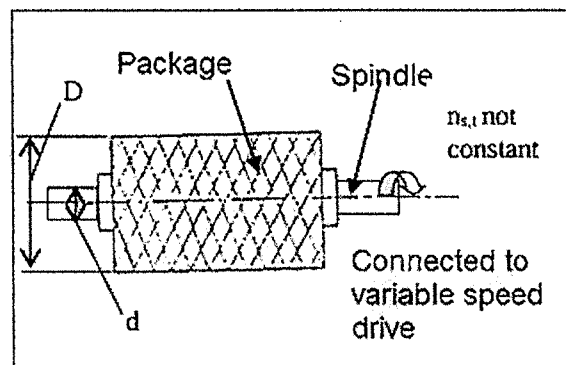

Figure 02.
- b) In a direct spindle drive system with variable speed (Figure 02.), the surface speed of the yarn package is maintained constant throughout the winding process.